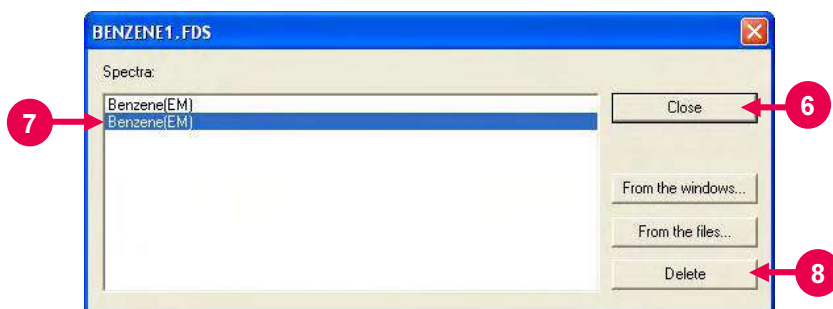

Fig. 7-22
- (8) Two spectra will be overlaid on the data processing window. At the same time, a dialog box as in Fig. 7-22 will open. Click **Close**. (Refer to ⑥ in Fig. 7-22.)
- (9) To delete a spectrum, click the corresponding sample name in the above Spectra list. (Refer to ⑦ in Fig. 7-22.) When the clicked sample name is highlighted in blue, the **Delete** button becomes active. Click the **Delete** button. (Refer to ⑧ in Fig. 7-22.)